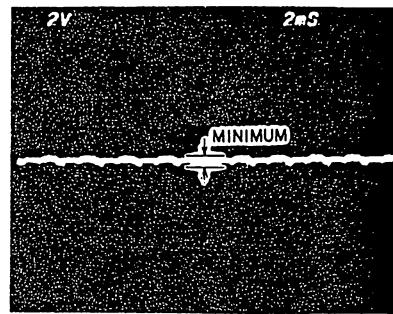

Fig. 4-14
- 3) Adjust VR 6(DAC OUTPUT OFF-SET) on the VOICE PCB(refer to Fig. 4-2), so that the levels on the oscilloscope and AC milli-voltmeter are minimum(refer to Fig. 4-14).
- 2) Adjust VR 7(LEFT OUTPUT OFF-SET) on the VOICE PCB(refer to Fig. 4-2), so that the levels on the oscilloscope and AC milli-voltmeter are minimum(refer to Fig. 4-14).
- 2) Adjust VR 8(RIGHT OUTPUT OFF-SET) on the VOICE PCB(refer to Fig. 4-2), so that the levels on the oscilloscope and AC milli-voltmeter are minimum(refer to Fig. 4-14).
- 2) Adjust VR 9(EFFECT SEND OUTPUT OFF-SET) on the VOICE PCB(refer to Fig. 4-2), so that the levels on the oscilloscope and AC milli-voltmeter are minimum(refer to Fig. 4-14).